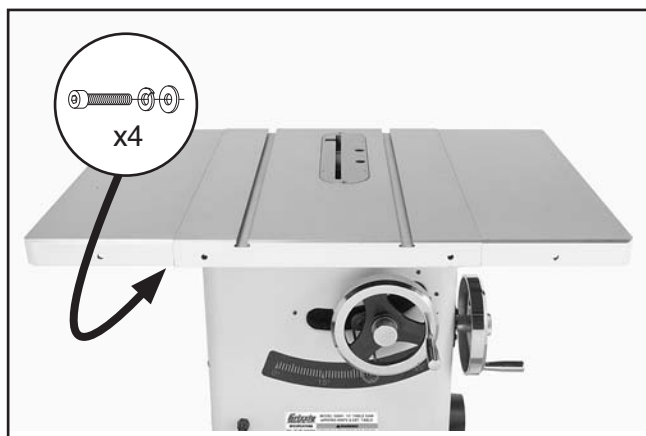

Figure 16. Extension wings installed.
8. While a helper holds the wings in place, attach each extension wing to the main table with the four M8-1.25 x 30 cap screws, 8mm lock washers and 8mm flat washers removed in **Step 6** (**Figure 16**).